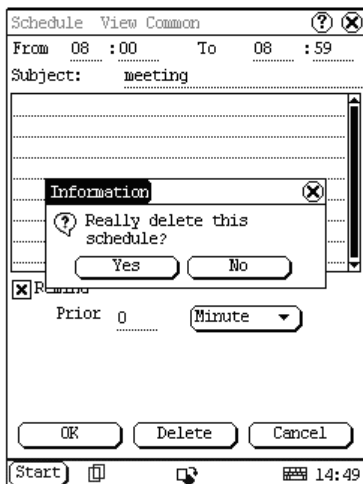

Fig 4-28
- 3) Then the schedule will be shown in the opened Schedule View interface. See Fig 4-28.